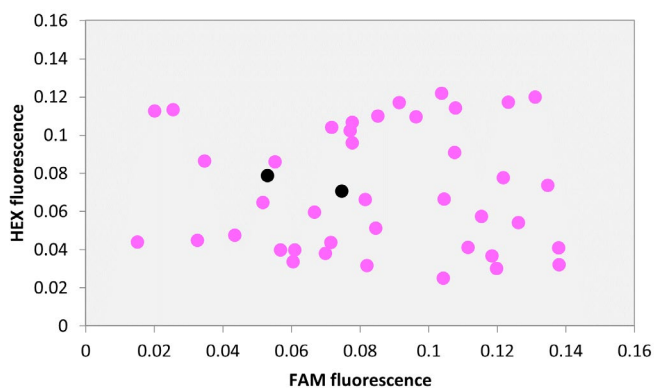
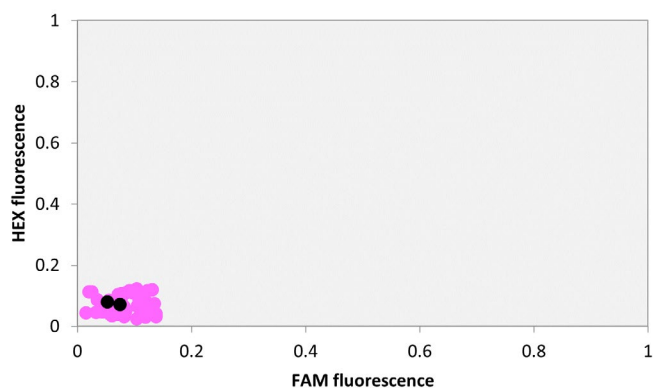

Figure 8a. Data points are scattered across the plot and there is no apparent pattern to the genotyping results.
Figure 8b. The X and Y axes have been rescaled and all data points group with the NTCs, indicating that no amplification has occurred.
**Plot characteristics:** no pattern to the results, scattered data points (figure 8a). Rescaling of the X and Y axes can help to clarify if amplification has occurred or not (figure 8b).